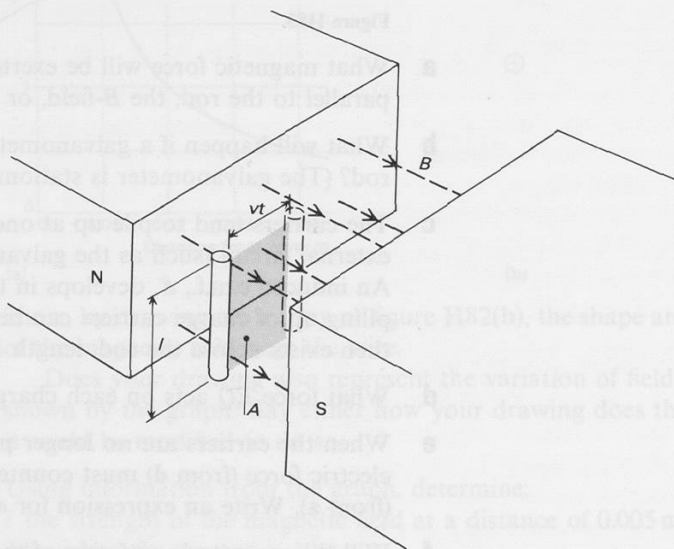

Figure H84
24(L) This question is about another – at first sight not very helpful – way of writing down the e.m.f. \mathcal{E} induced in a rod of length l , moving as shown in figure H84, at right angles to the field B , at velocity v . The induced e.m.f. \mathcal{E} is given from question 23 by